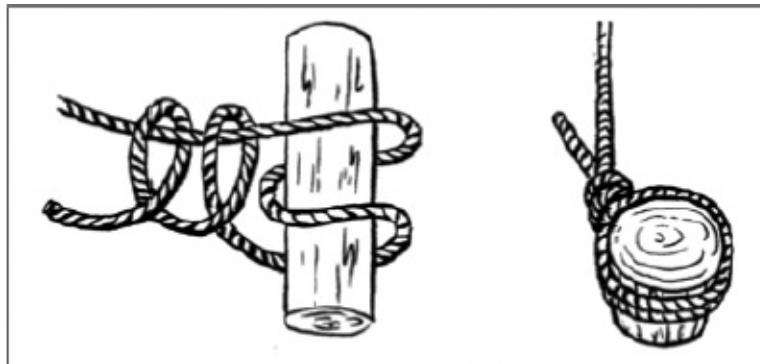

Figure 5-6. Round-turn with two half-hitches
- b. **Round-Turn with Two Half Hitches.** This is a constant tension anchor knot (Figure 5-6). The rope forms a complete turn around the anchor point (thus the name round turn), with both ropes parallel and touching, but not crossing. Both half hitches are tightly dressed against the round turn, with the locking bar on top. When you dress the knot, leave at least a 4-inch tail on the working end.